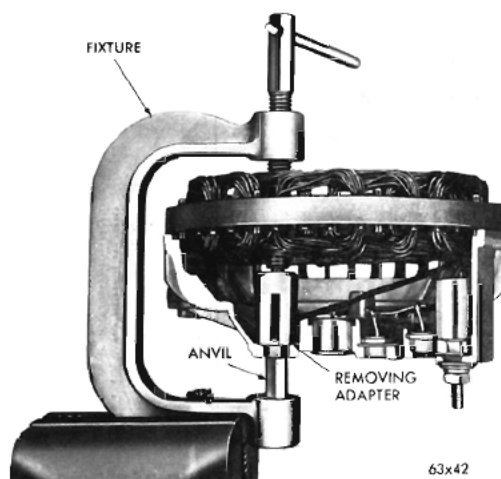

Fig. 24—Removing Rectifiers
(4) Cut the lead at the malfunctioning rectifier.
(5) Place the Rectifier Removing and Installing Press in a vise and support the end shield on the clamp anvil under the rectifier to be removed (Fig. 24).